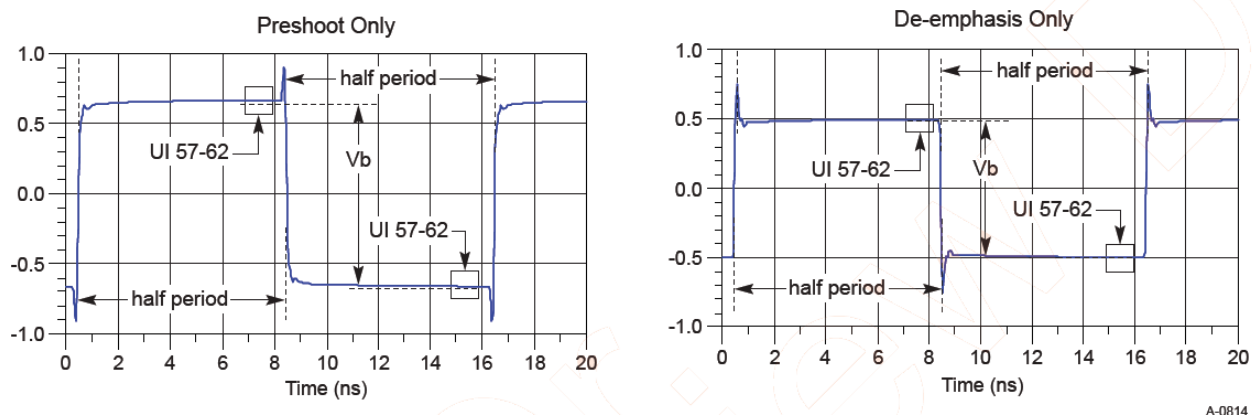

Figure 194 Waveform measurement points for preshoot and de-emphasis
8.0 GT/s, 16.0 GT/s and 32.0 GT/s PCIe signaling must support the full range of presets given in Table 8-1 (PCIe Base Specification Revision 5.0). Presets are defined in terms of ratios, relating the pre-cursor (V_c) is referred to as pre-shoot, while the post-cursor (V_b) is referred to as de-emphasis. This convention permits the specification to retain the existing 2.5 GT/s and 5.0 GT/s definitions for Tx equalization, where only de-emphasis is defined, and it allows preshoot and de-emphasis to be defined such that each is independent of the other. The tolerances in Table 8-1 (PCIe Base Specification Revision 5) also apply to 2.5 and 5.0 GT/s de-emphasis. The maximum swing, V_d , is also shown to illustrate that, when both c_{+1} and c_{-1} are nonzero, the swing of V_a does not reach the maximum as defined by V_d . The high frequency nature of PCIe signaling makes measurement of single UI pulse heights impractical. Consequently all amplitude measurements are made with low frequency waveforms as shown in Figure 194.